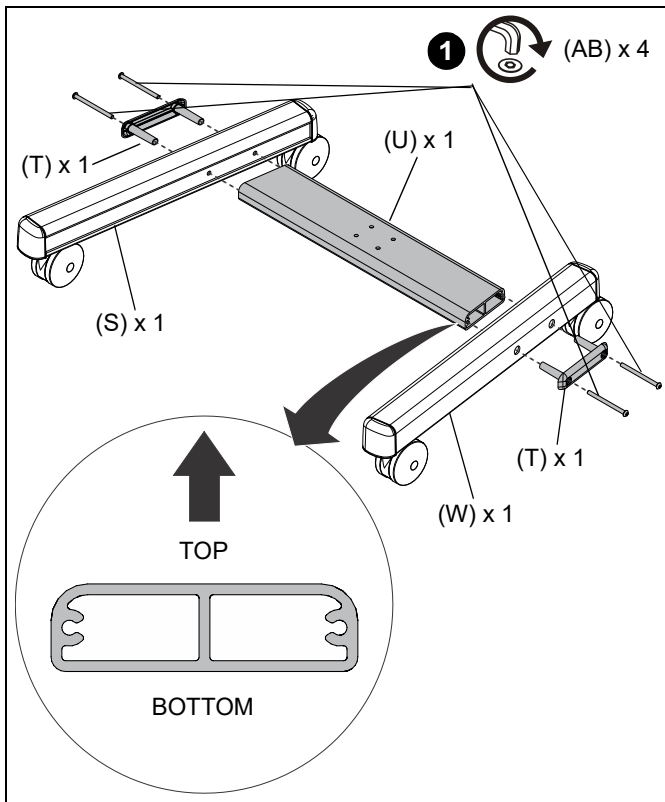

Figure 1
1. Assemble the right leg assembly (S) and left leg assembly (W) to the crossbar (U) using two 5/16-18 x 4-1/4" screws (AB) through one crossbar end cap (T) per leg. (See Figure 1)
IMPORTANT ! : Orient the crossbar (U) so that the top side (rounded edges) is facing up. (See Figure 1)